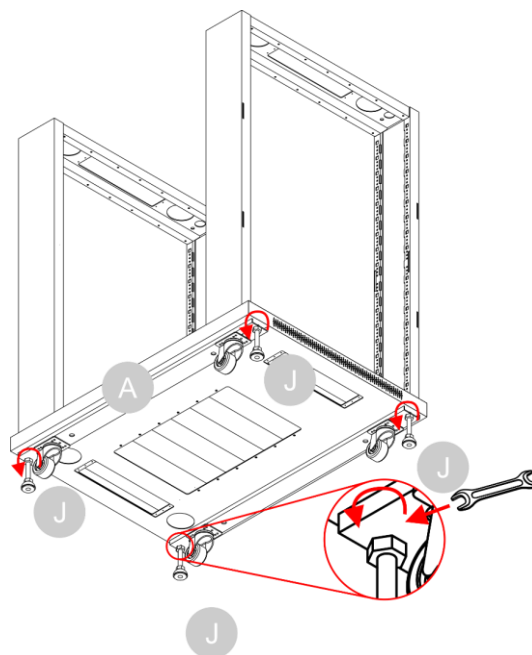

Fig. 24
07) Tighten the top nut of the **adjustable feet (J)** with a wrench, as shown in Fig. 24.